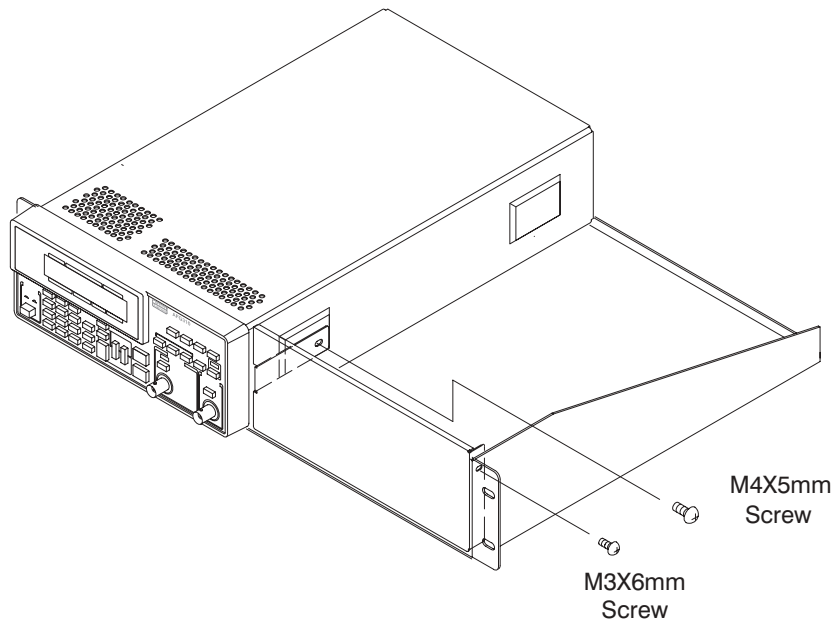

Figure 7: Attaching panel
4. Attach the panel to the instrument with one screw (M4 × 5 mm) using a #2 phillips tip screwdriver. See Figure 7.